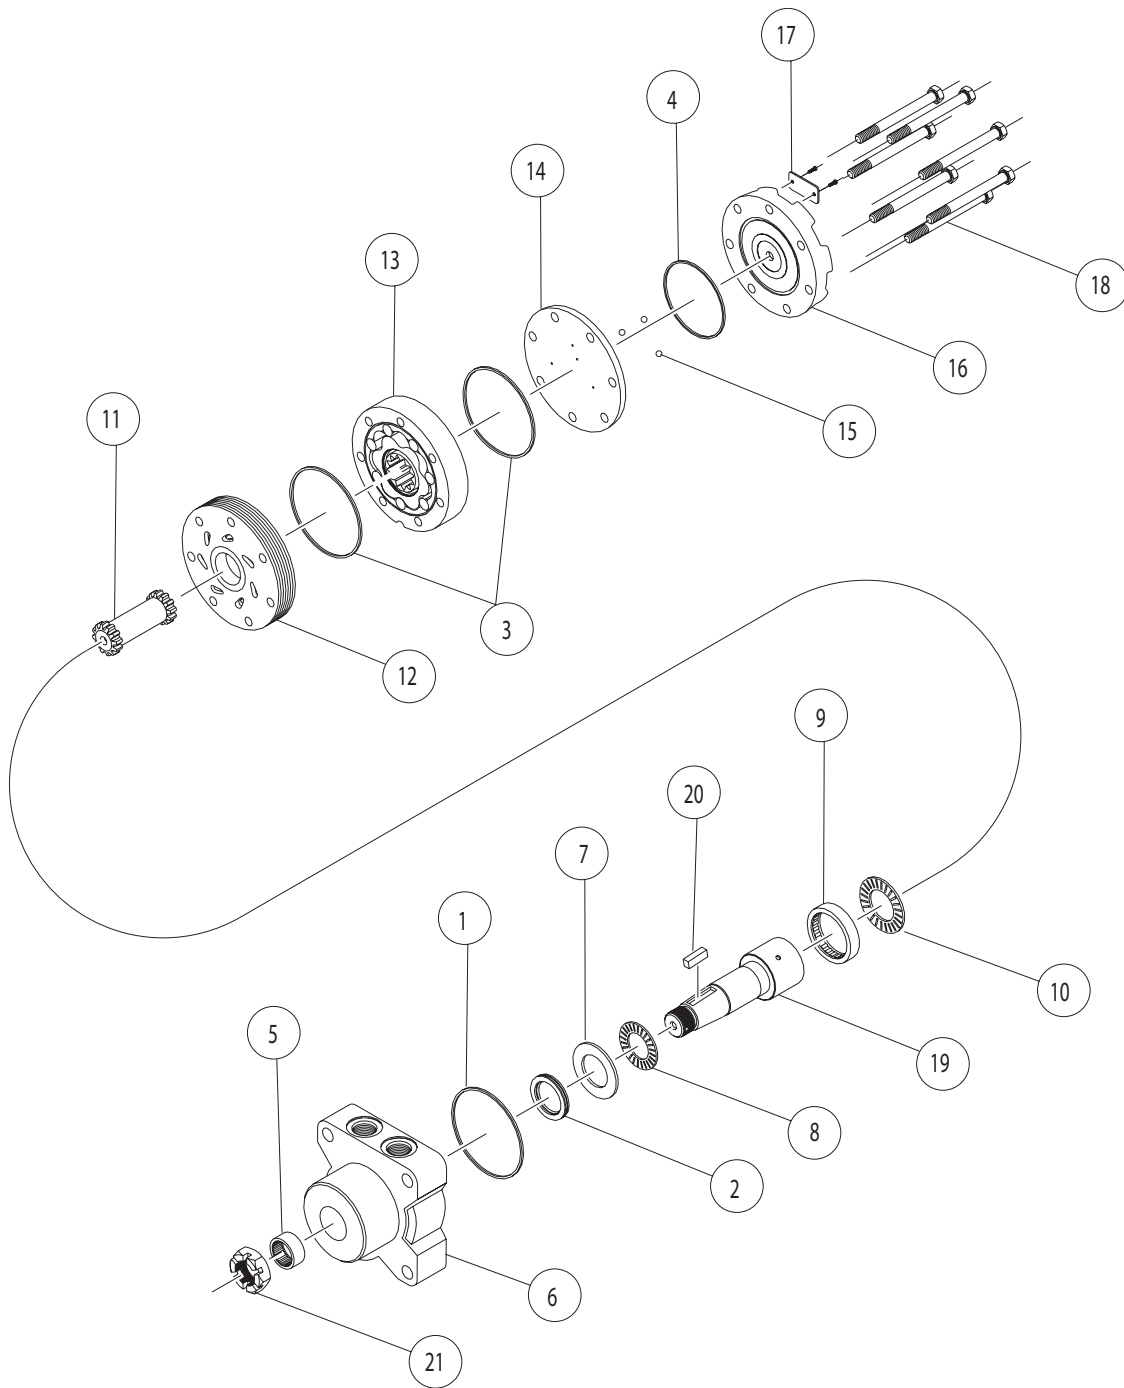

FIGURE 1
- A) Remove all shaft components from the shaft, (19), (i.e., keys, wire rings, nuts). To aid in reassembly of the motor, make a "V" shaped set of lines from the endcover to the housing using either paint or a marker. With the shaft facing down, secure the motor in a vise by clamping onto the housing, (6). Loosen and remove the seven bolts, (18), holding the motor assembly together. Remove the endcover, (16), from the motor.
- B) Remove the balance plate, (14), rotor set, (13), and the manifold, (12), from the motor. Remove all seals from the components and discard. **(Caution - when removing the balance plate, do not allow the three check balls, (15), to fall out from the plate.) (Caution - do not allow the rolls to drop out from the rotor set assembly when removing the assembly from the motor.)** Remove the manifold from the motor and lay aside. Remove drive link, (11), from the motor and lay aside. Remove the thrust bearing, (10), from the housing and lay aside. From the front of the housing, gently tap the shaft, (19), upward and remove through the rear of the housing.
- C) Using a slide and hammer type bearing puller, (see Figure 1), remove the rear housing bearing, (9), from the housing. Remove the thrust bearing, (8), and lay aside, remove the thrust washer, (7), and lay aside. Remove the shaft seal, (2), and discard.
- E) Place the integral thrust washer/bearing, (8), onto the shaft. The washer side should be against the shoulder of the shaft. Place a thrust washer, (7), onto the shaft on top of the thrust bearing. Coat the shaft seal, (2), with a light coat of oil and install onto the shaft with the lip side down.
- G) The rear bearing is now ready to be installed. With the writing side of the bearing facing up, place the bearing, (9), into the housing bore. Using a hand press, the bearing should be pressed into the bore. It is necessary that the bearing be pressed .120 - .130" deep into the bore of the housing to accommodate the width of the thrust bearing.
- H) Install a thrust bearing, (10), on top of the shaft.
- I) Install a lightly oiled body seal, (1), into the seal groove in the housing. Make sure that this seal is in the seal groove and protruding approximately .007" over the top of the housing surface. **(Caution - if a bump is felt in the seal remove the seal and make sure that there is no grit on the seal or in the seal groove.)**
- J) Install the drive link, (11), into the housing. The proper end of the drive link has a "hat" machined in the top of the drive link on the 07-16 displacement. The drive link is to be placed in the shaft with the hat facing up on these displacements. The 18 displacements and above have a symmetrical head and either end can be put into the motor. Once the drive link has been installed, the shaft can be seated. This is done by bringing the arbor of the hand press down and putting pressure on the drive link. **(Caution - do not use excessive pressure as this could deform the thrust bearing and/or bearing races.)**
- K) Place the manifold (12), (seven teardrop hole side down) on the housing. Line the bolt hole notches in the outside diameter of the manifold up with the seven bolt holes in the housing.
- L) Install two oil coated body seals, (3), one on each side, into the seal grooves of the rotor set, (13). Place the deep groove side of the of the rotor set down on the manifold, (12).
- M) Place the balance plate, (14), on top of the rotor set with the check balls, (15), up. If the check balls were removed, install three check balls into the countersunk holes on the balance plate, one ball per hole.